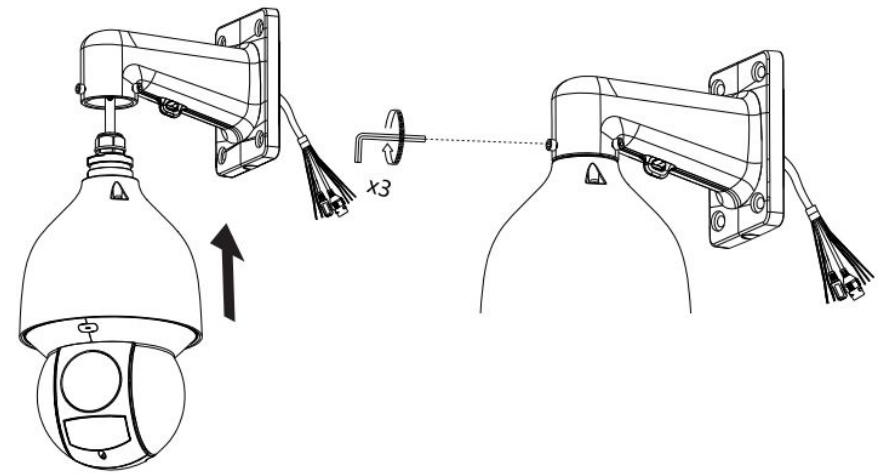

Figure 2-6
**Step 2** Align the flange edge of the camera with that of the mounting bracket; push the PTZ into the bracket, twist the three stainless screws into the corresponding screw holes of the flange, and then use a hex tool to secure three stainless screws, as shown in Figure 2-6.